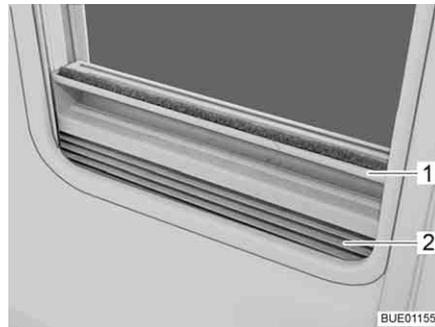

Fig. 60 Roman shade
- Grip the Roman shade (Fig. 60,2) in the middle of the holding bar (Fig. 60,1), pull it upwards and then release it at the desired height. The Roman shade will stay at this height.